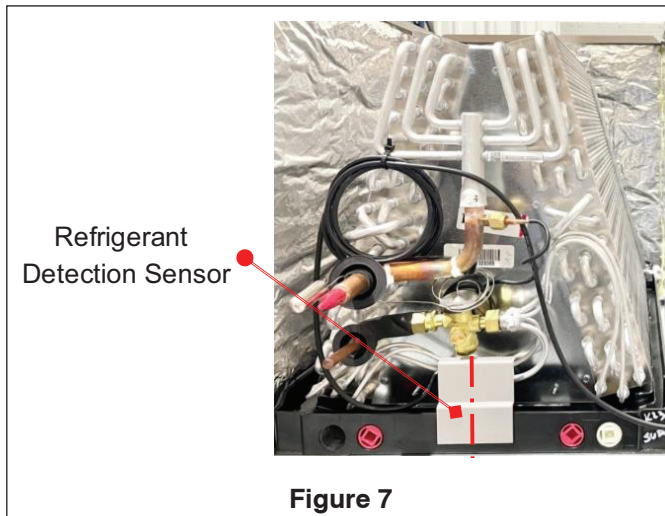

Figure 7
1. Attach sensor bracket, ensuring it is in the vertical position, on the drain pan as shown in Figure 7 below: